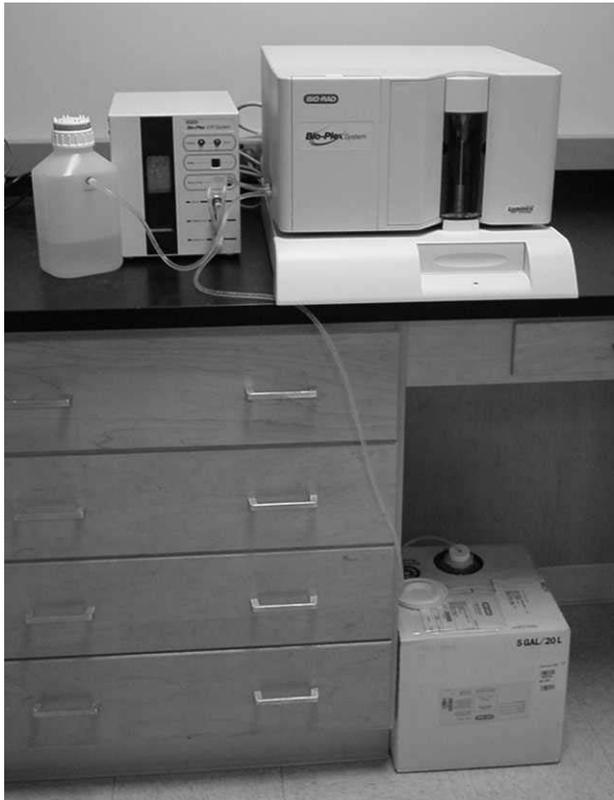

Fig. 19. HTF setup.
- Place the HTF next to the sheath fluid connection on the array reader. Do not place the HTF on top of the array reader. Place the sheath cube 3–4 ft below the level of the array reader and HTF. Figure 19 shows a typical setup.